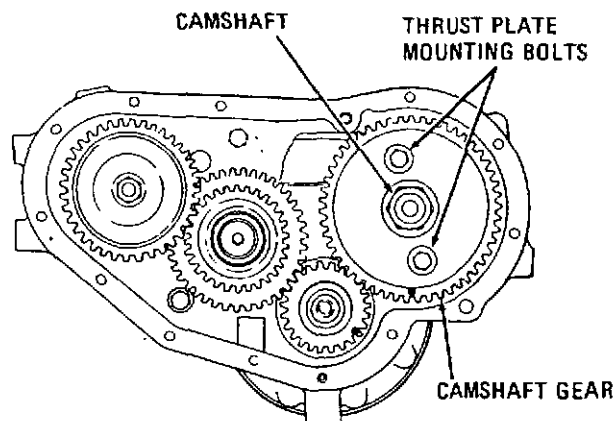

Figure 5-29. Thrust Plate Mounting Bolt Removal
9. With the tappets in the raised position, rotate the engine crankshaft until the two holes in the camshaft gear expose the thrust plate mounting bolts; see figure 5-29.